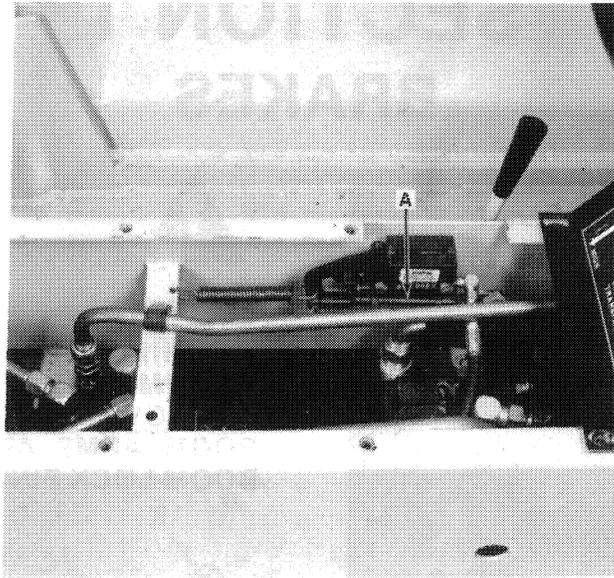

FIGURE 1-3
The master cylinder, Figure 1-3, is located below the console cover in the operator's cab. Remove the 8 bolts holding the seat support and console cover.
1. Disconnect the spring and link, A, Figure 1-3, from lever, F, Figure 1-4.
3. Install a new cup, K, Figure 1-4, and reinstall all parts. Adjust link, A, Figure 1-3, to obtain 3/4"-1" (19 mm-25 mm) free play in the pedal.